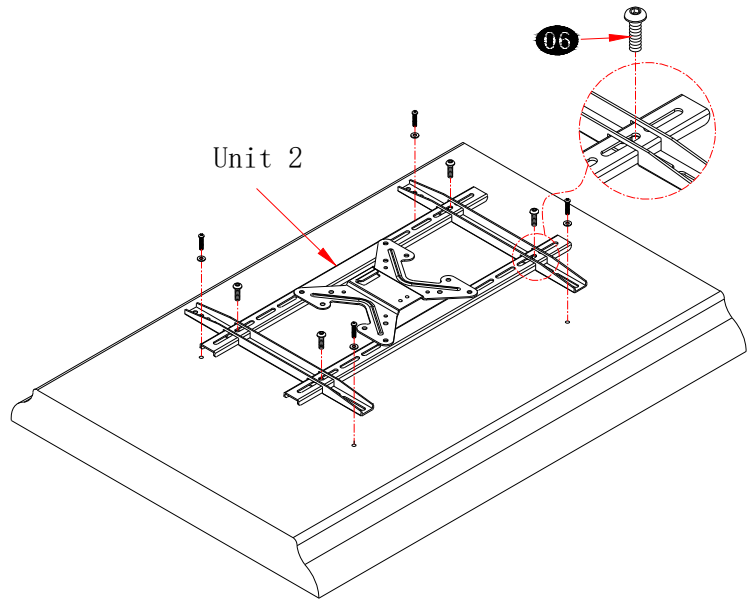

figure 7
Unit 2 Lay TV face down,fix (D) onto (B),and then slide (C) onto (B),using the correct screws to fix them on the back of TV(figure 7).